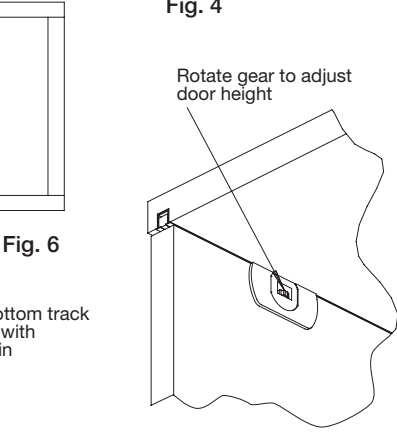

Fig. 7
2. (If required) The doors can be levelled using the gear mechanism on the running gears which provides 1/8" of adjustment up and down for a total of 1/4" adjustability. (Fig. 7)